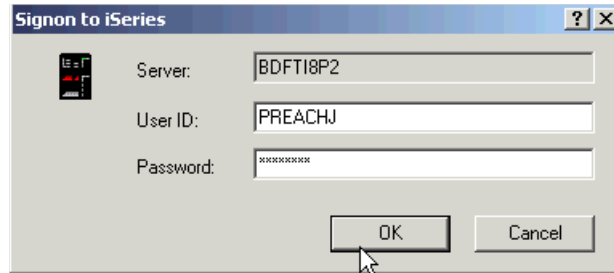

Figure 18-7 System i Navigator Signon to System i panel
2. Expand the System i to which you wish to add the logical volume and sign on to that server as shown in Figure 18-7.